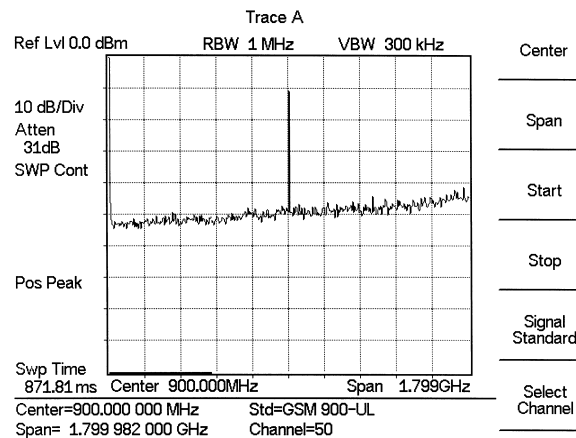

Figure 2-15. Signal at 900 MHz
- Step 3.** Enter 900 on the keypad and select the MHz soft key, or ENTER which defaults to MHz. Observe that the signal resembles that shown in Figure 2-15.